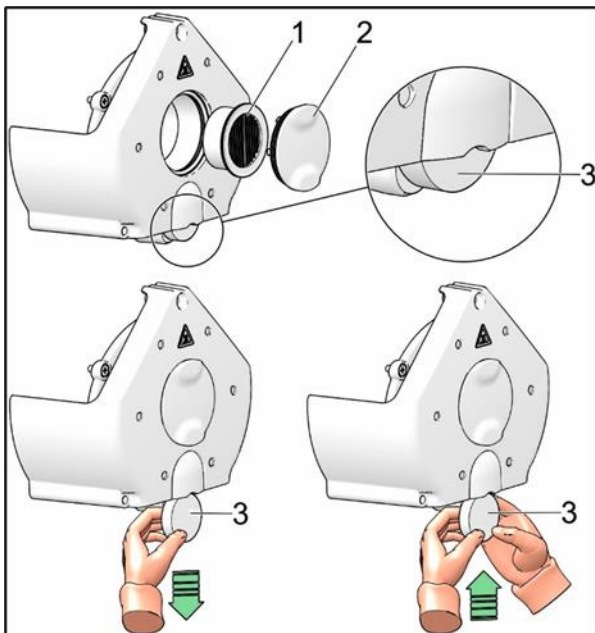

Fig. 11
19.5. Air pumps intake filter set replacement (Fig. 11)